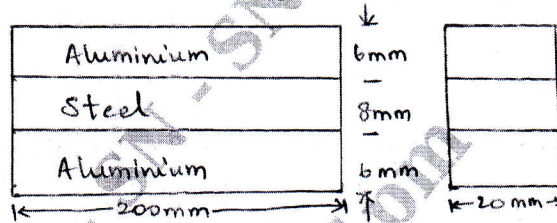

Fig.Q.2(b)
- A flat steel bar $200\text{mm} \times 20\text{mm} \times 8\text{mm}$ is placed between two aluminium bars $200\text{mm} \times 20\text{mm} \times 6\text{mm}$. So as to form a composite bar as shown in Fig.Q.2(b).